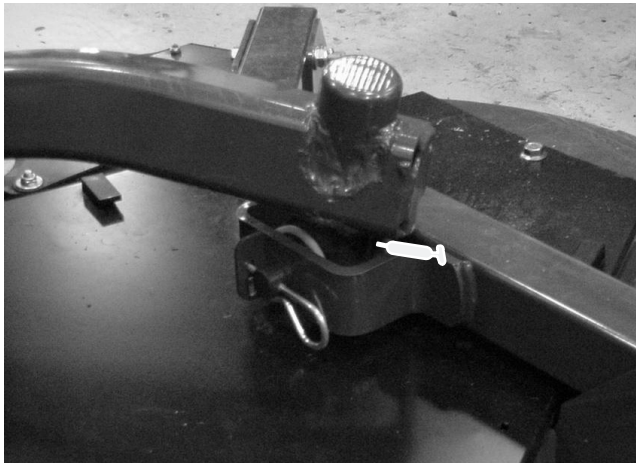

**Figure 21**
- Castor fork shaft bushings (2) (Fig. 21)